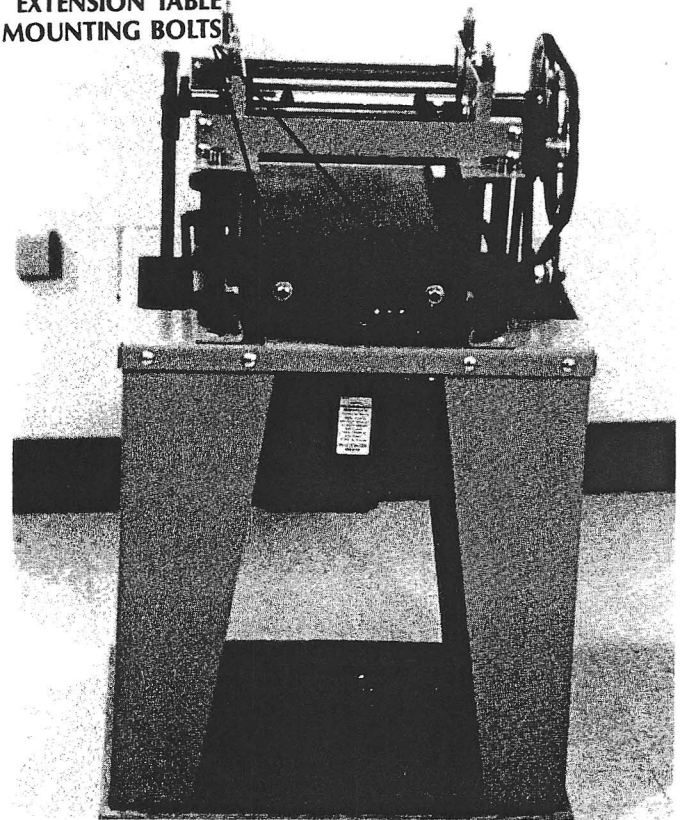

Fig. 2
1. Install two 5/16" bolts with lock and flat washers from the bolt bag in the threaded holes on both ends of the bed. Do not tighten. The bolts should extend enough from the bed to allow the mounting of the extension tables. (fig. 2)